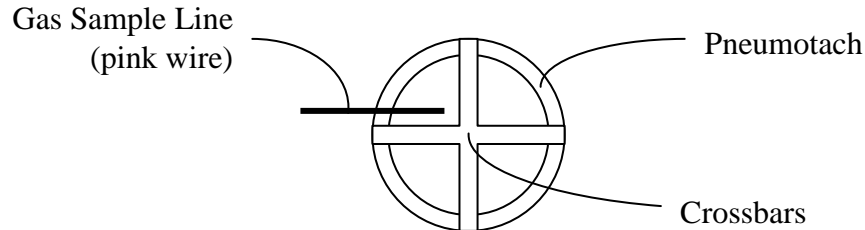

Figure 3. Proper Placement of Sample Line
- c. Undo the gas sample line from the Cal/Port and insert it into the pneumotach. Ensure that the gas line (pink wire) can be seen in the pneumotach but is not touching the crossbars (Figure 3).